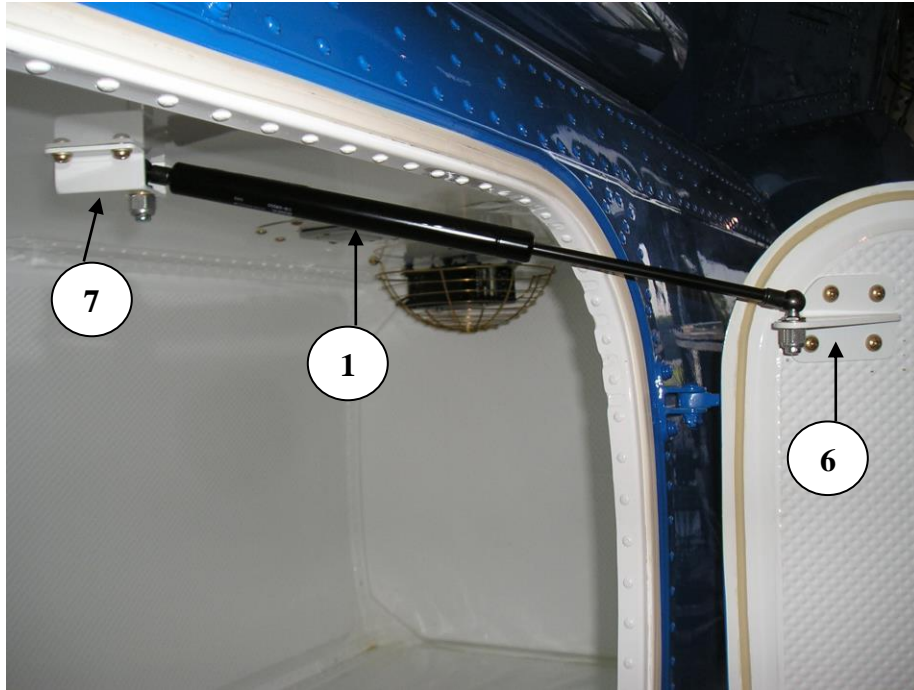

Figure 1
The Baggage Door Actuator installation in Figure 1 shows the location of the installed equipment in the aircraft.
References:	Table 1 and Figures 1 through 3
Actuator must be installed with tube end connected to ceiling bracket (item 7) as shown in figure 1. Ensure safety clip (item 5) is fully inserted into the ball socket (item 2)